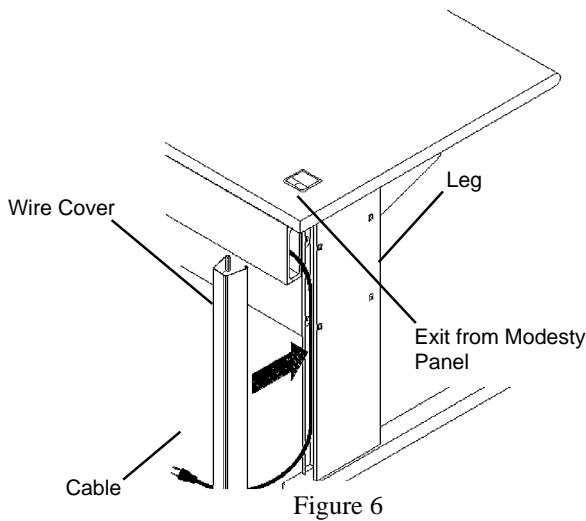

Figure 6
3. Route the cables and re-install the Wire Covers. See **Figure 6**.